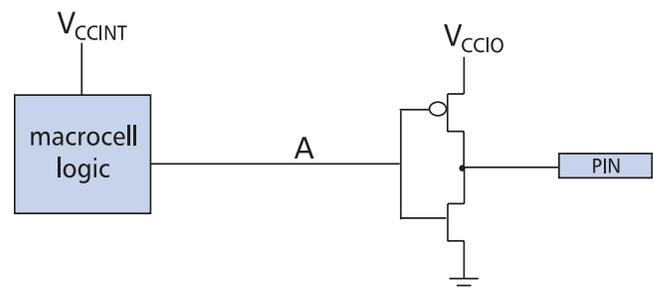

Figure 4
**Figure 4** shows a simplified model of the output driving structure for an XC9500XL CPLD. If point A is LOW and  $V_{CCIO}$  is ON, the pin drives HIGH. If point A is HIGH and  $V_{CCIO}$  is ON, the pin drives LOW. If you leave  $V_{CCIO}$  powered up and  $V_{CCINT}$  powered down, static CMOS levels can be delivered to your system. In general, this is harmless.